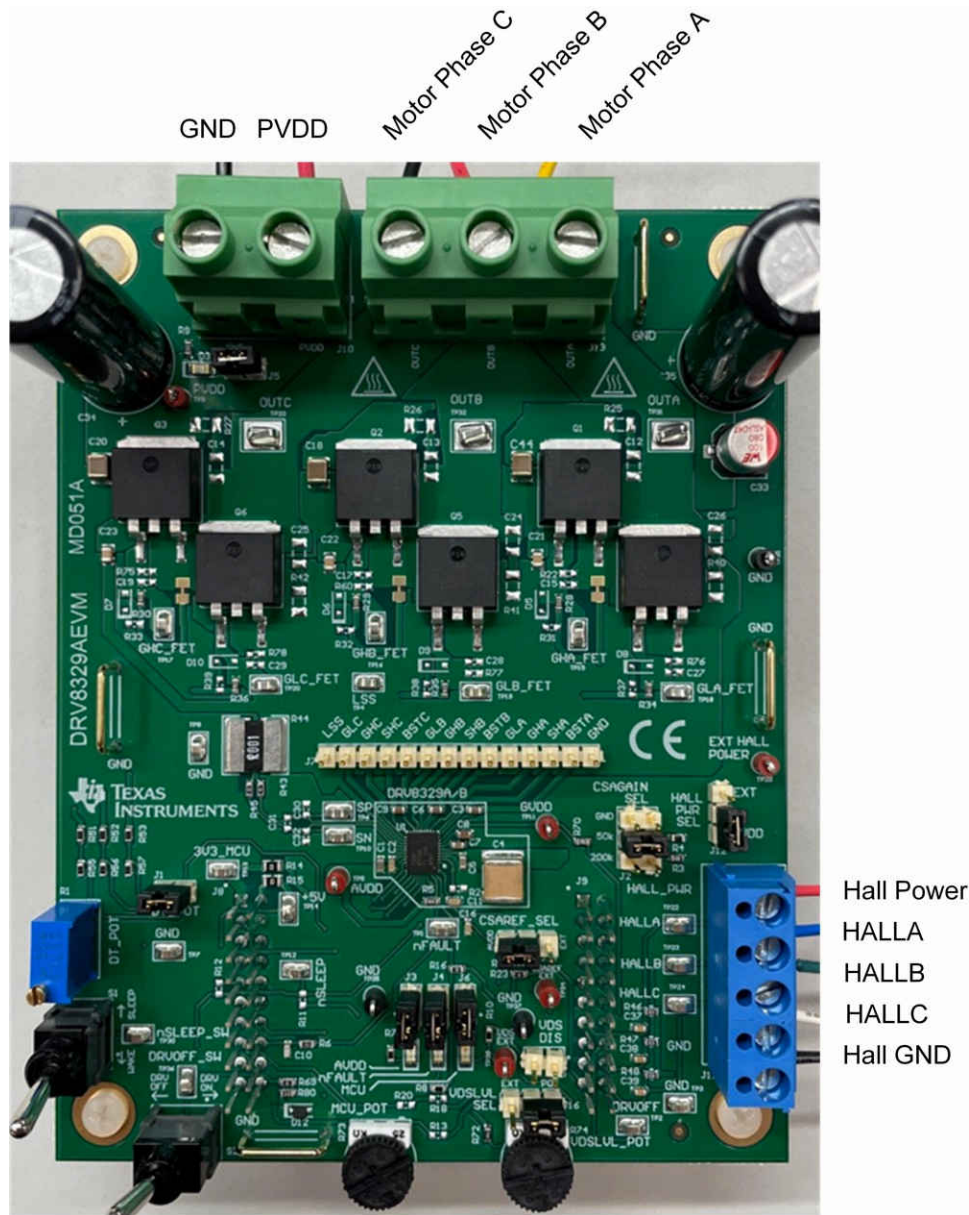

Figure 4-2. Connections from motor to DRV8329AEVM
2. Connect the motor phases to OUTA, OUTB, and OUTC in the correct order to connector J13. For sensed applications, connect the Hall sensors to the appropriate locations on the 5-pin connector J11 as shown in Figure 4-2. Select AVDD or EXT on jumper J11 to choose the Hall power source voltage.
Figure 4-2 shows the power supply and motor connections made to the DRV8329AEM in order to spin a 3-phase sensed or sensorless Brushless-DC motor.